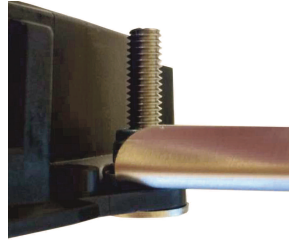

Fig. 1
3. Locate the Flush Mounts and assemble to the reverse of the fan (The Flush Mounts will sit flush against the radiator core with the M6 thread protruding towards the front of the vehicle) assemble the brackets on to the fan (Please Note: The brackets are handed) secure in place using the M6 Washers and M6 Nyloc Nuts. (Fig. 1)